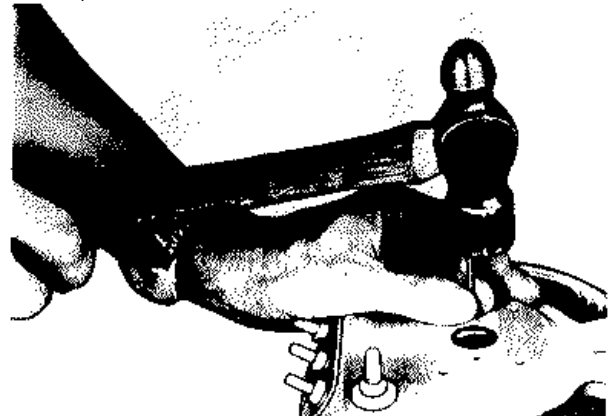

FIG. 9
- Slip ring end roller bearing replacement should seldom be required. If it should become necessary, remove the inner seal and pull the bearing out of the housing inward, using a standard puller. The final seal may be removed, using a 1/8" (.125) pin. Using the two clearance holes, the seal can be tapped inward. (See Figure 9.)